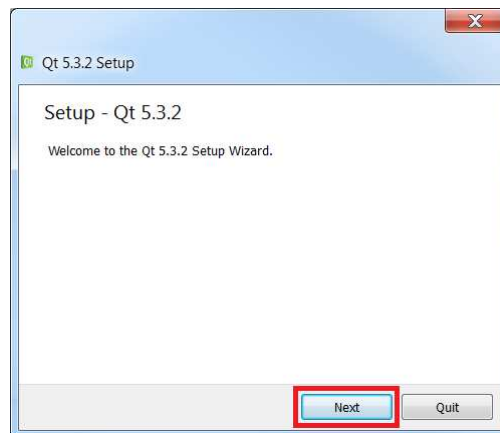

Figure 3. Qt Initial Run
2. Run the downloaded executable file. Click the "Next" button shown in Figure 3.